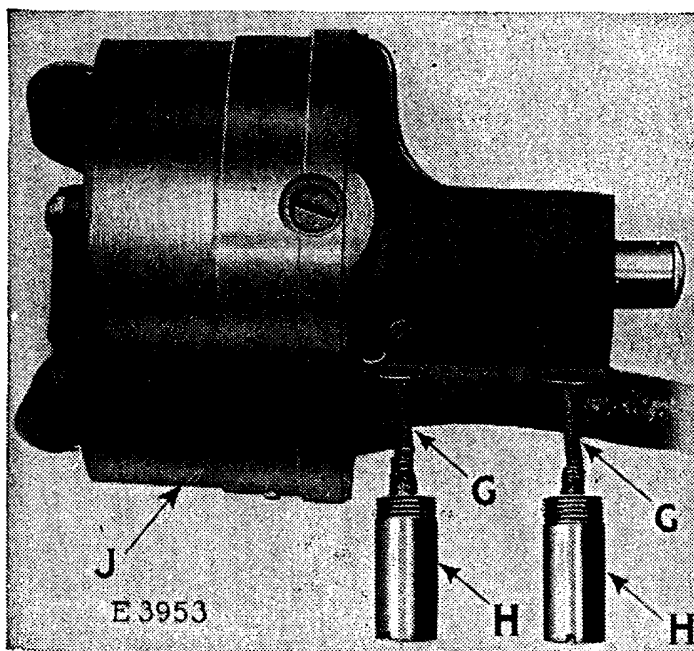

FIG. 30. VIEW OF MOTOR, SHOWING GREASE CUPS REMOVED
1. When the machine is shipped from the factory, the two motor grease cups (HH, Fig. 30) are filled
- (c) Withdraw the entire motor (J, Fig. 30) from the machine by turning it slightly from side to side and at the same time pulling it toward you. The motor should only be withdrawn far enough to expose the two
grease cups (HH, Fig. 30). **Do not disconnect any of the electric wiring of the machine or the motor.**
- (d) Unscrew the two grease cups (HH, Fig. 30).
- (h) Replace the grease cups, being sure that the wicks (GG, Fig. 30) enter the small holes which lead to the armature shaft.